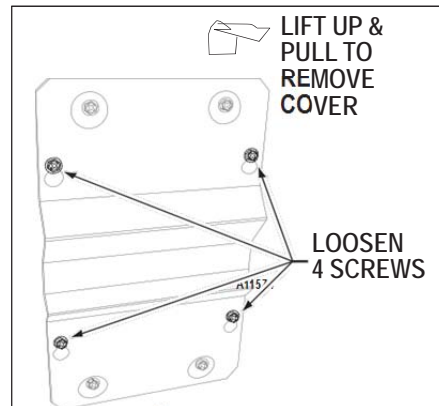

Figure 6. Remove Cover
Go to the back of the host cabinet and loosen the four (4) screws holding the umbilical cover. Remove the umbilical cover. See Figure 6.